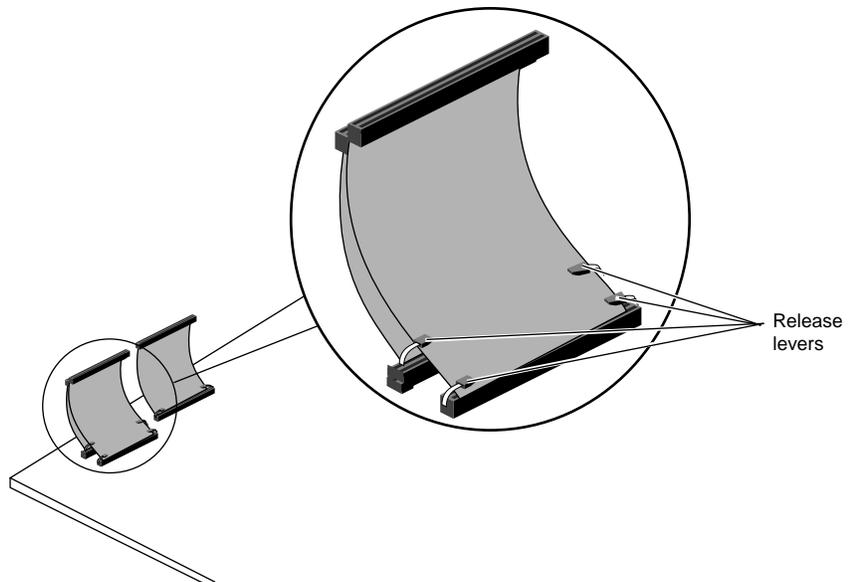

Figure 2-23 Attaching the Video-Graphics Cables to the Graphics Board Connectors
2. Slip the innermost cable through the outermost cable levers of the two-cable set. See Figure 2-23.